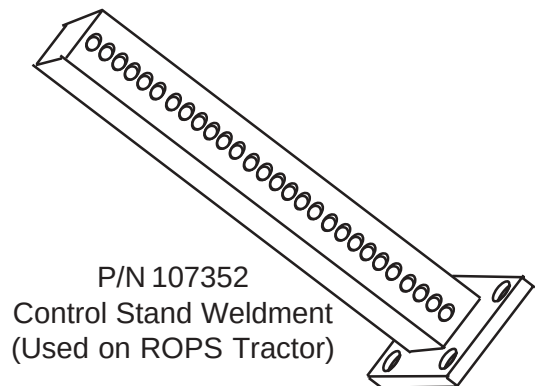
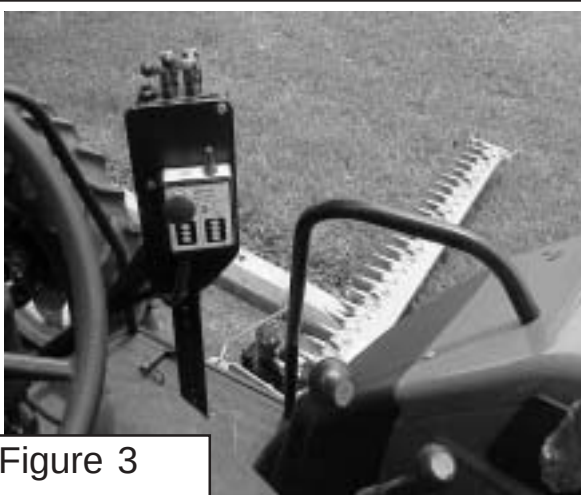

Figure 1
Figure 3
23. Install Cutter Bar Head Assembly Using an over head hoist lift and slide the cutter bar assembly into place until the carriage arm is in alignment with the sub-frame (See Figure 1) mounting holes. Insert the carriage arm mounting pin (See Figure 31, 32 & 33) and the two retaining bolts and nuts that were in the retaining pin when it was removed from the carriage arm.
24. Install The Hydraulic Tank Assembly. The hydraulic tank is shipped as an assembly with the filter and directional solenoid valve attached to it. The Hydraulic tank will bolt to the frame (See Item 4 Figure 1) with 4 bolts, lockwashers and Nuts (See Figure 1 & 33)
1.. Install Valve Control Handle Mounting Brackets, **ROPS TRACTOR** The valve control stand weldment (P/N 107352) will bolt to the flat operators platform on the RH side and is designe to be bolted to tractor. It is designed to use with ROPS. Install the mount stand where it will be convenient for the operator to use. The control stand weldment is adjustable for height, this is done by selecting the mounting hole you want to use. The stand can be cut for height adjustment if wanted on the ROPS Model. The valve control bracket (P/N 02977335) bolts the stand weldment using the holes that best fir the operators needs (See Figure 1 & 2). Once the right distance is decided to fit operator the valve control mount will bolt to the floor of the operators plat form with 4 bolts. The holes will need to drilled through the floor, check the under side of the floor before drilling any holes to make certain drill bit will not hit and damage anything (See Figure 3). The control valve bolts direct to the valve stand on the ROPS model.